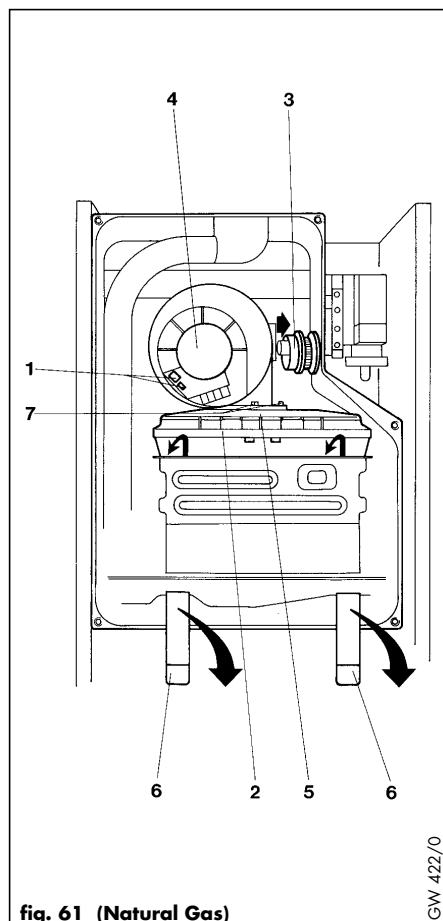

fig. 61 (Natural Gas)
- Remove the 2 fan securing bolts (7, fig. 61).
- Remove fan inlet restrictor (3, fig. 61) and fit to new fan.